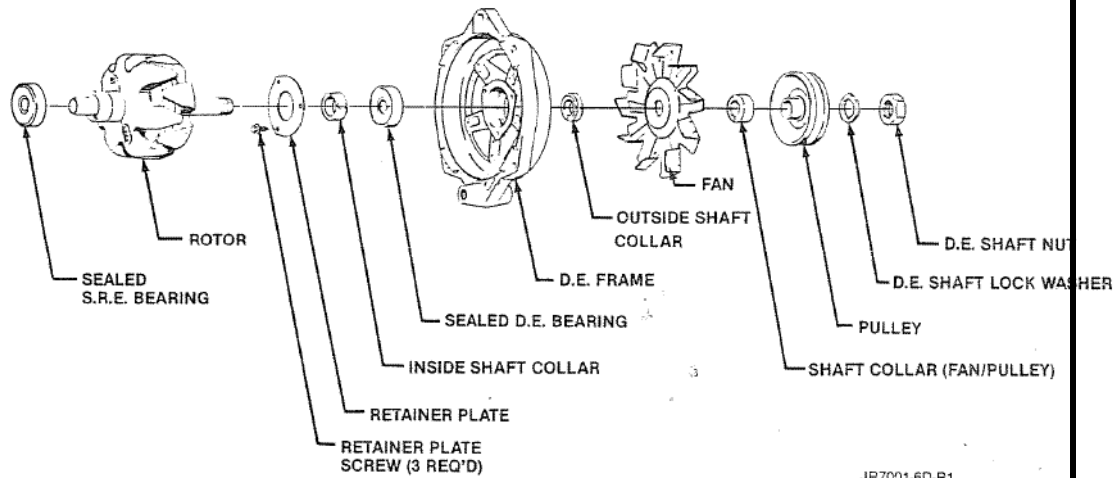

FIG. 1 — ROTOR AND DRIVE END ASSEMBLY
**REASSEMBLY OF ROTOR AND DRIVE END FRAME (including bearings) [See Figure 1]**
Note stack-up of parts for drive end (D.E.) frame reassembly [Figure 1]. Press against outer race of D.E. bearing to assemble into D.E. frame. Bearing is sealed and requires no lubrication. Assemble other parts as shown [Figure 1]. Rotor may be held with hex wrench in end of shaft when tightening D.E. shaft nut on assembled alternator. Tighten nut to 100 Nm (75 lb ft).